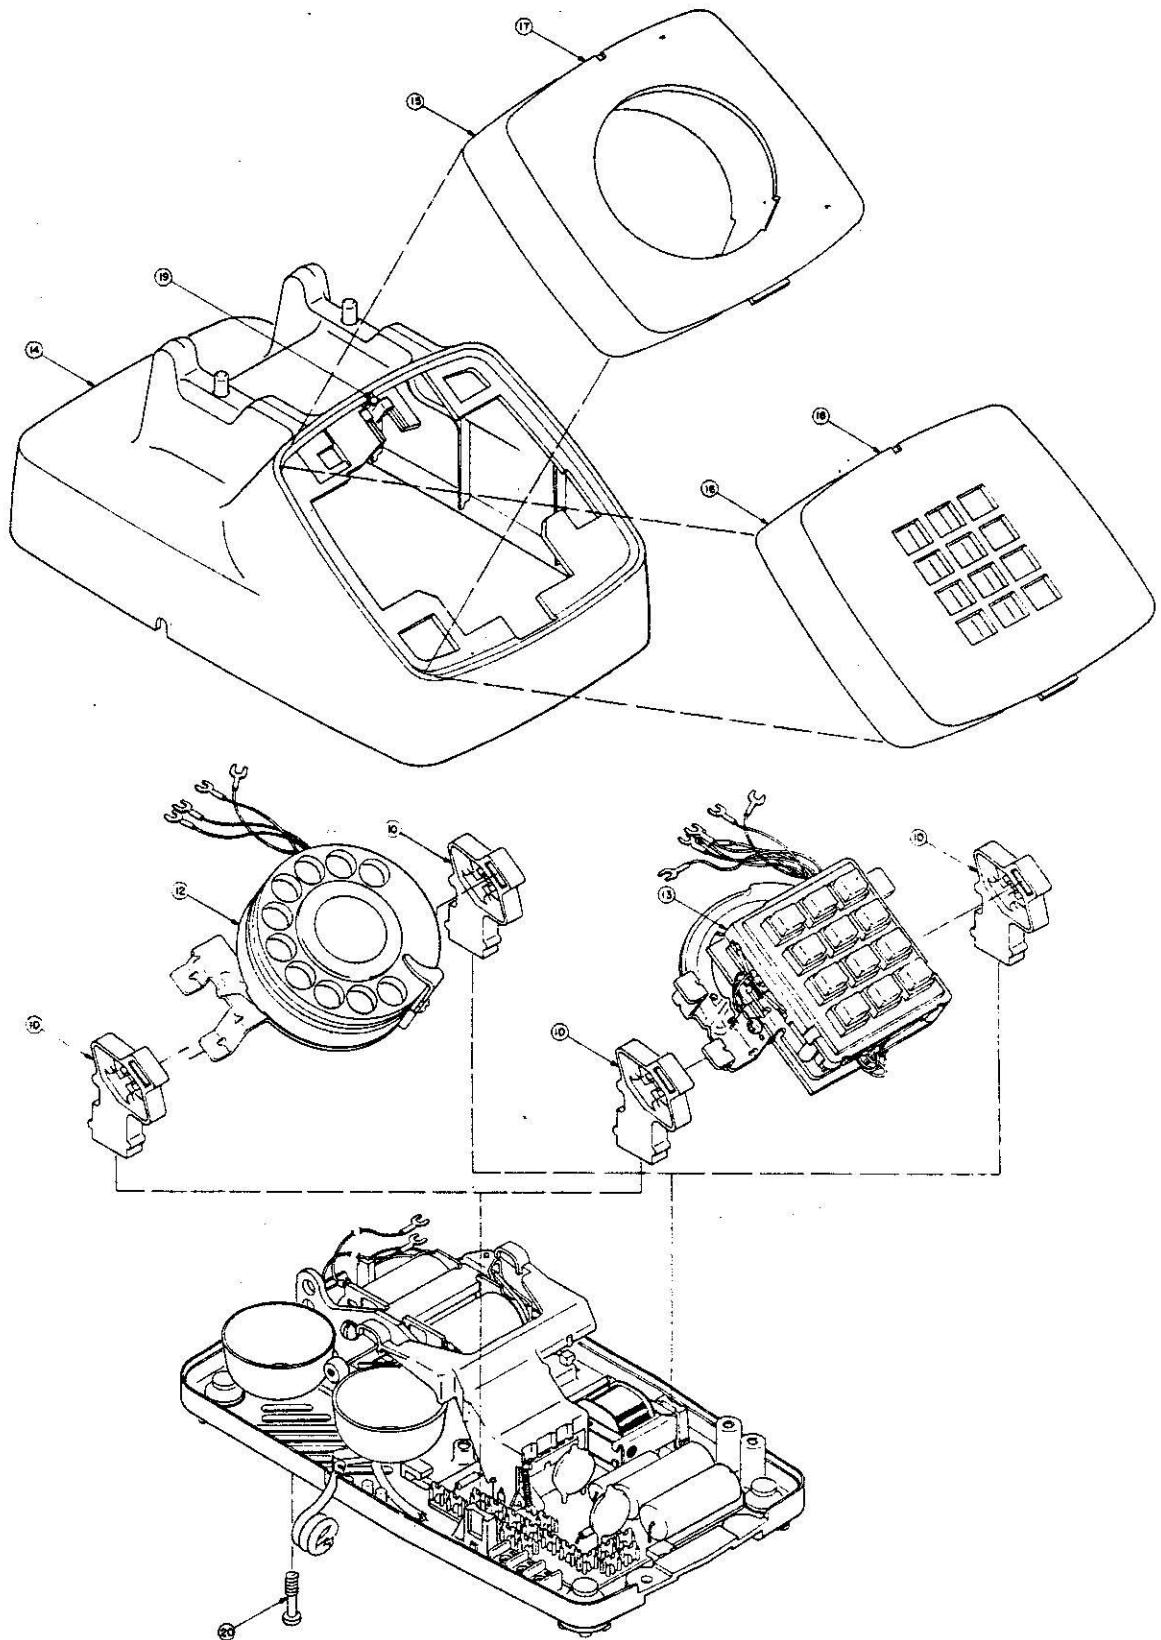

Figure 1. Exploded View of Telephone.
3.01 The component parts of the telephone are listed in Table 2 and are identified by corresponding item numbers in Figures 1 and 2. To determine the part number for any component of the telephone, proceed as follows:
- Locate the component in Figure 1 or 2.